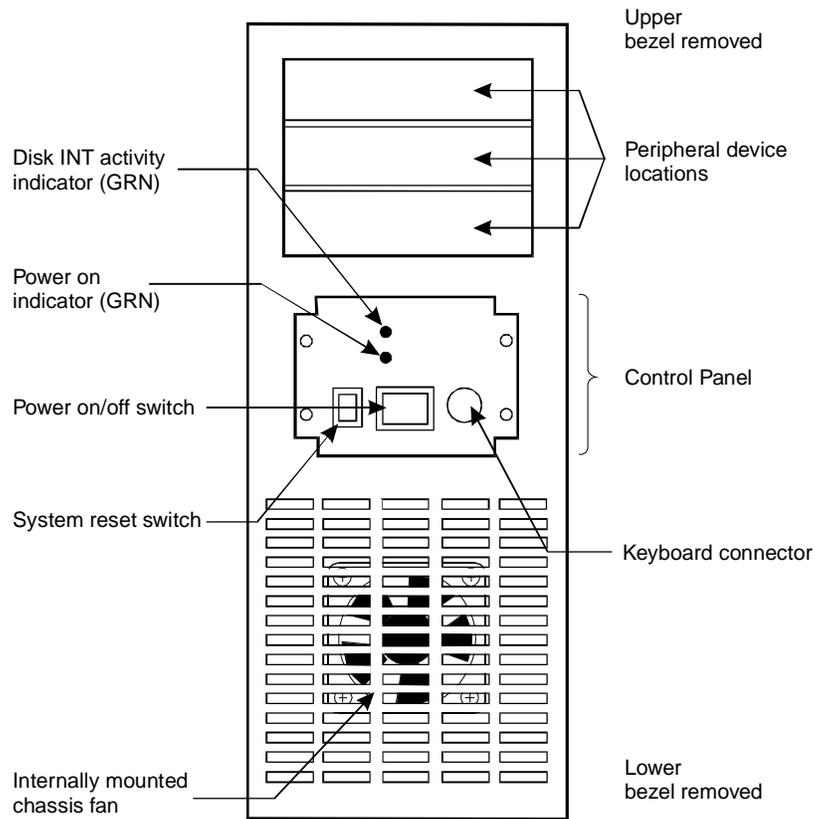

Figure 9-1. Front View of the MAP/40 or 40s
2. If the system is off, turn it on using the power switch on the back of the MAP/40 or 40s (Figure 9-1).